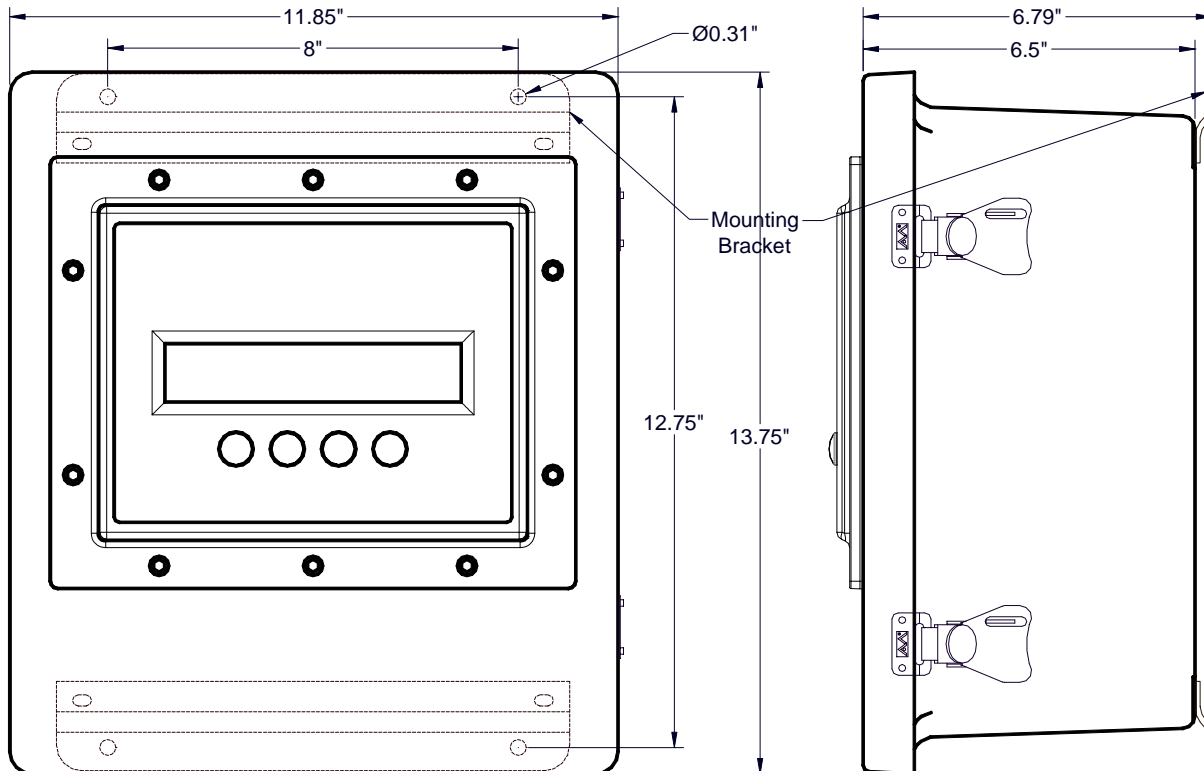
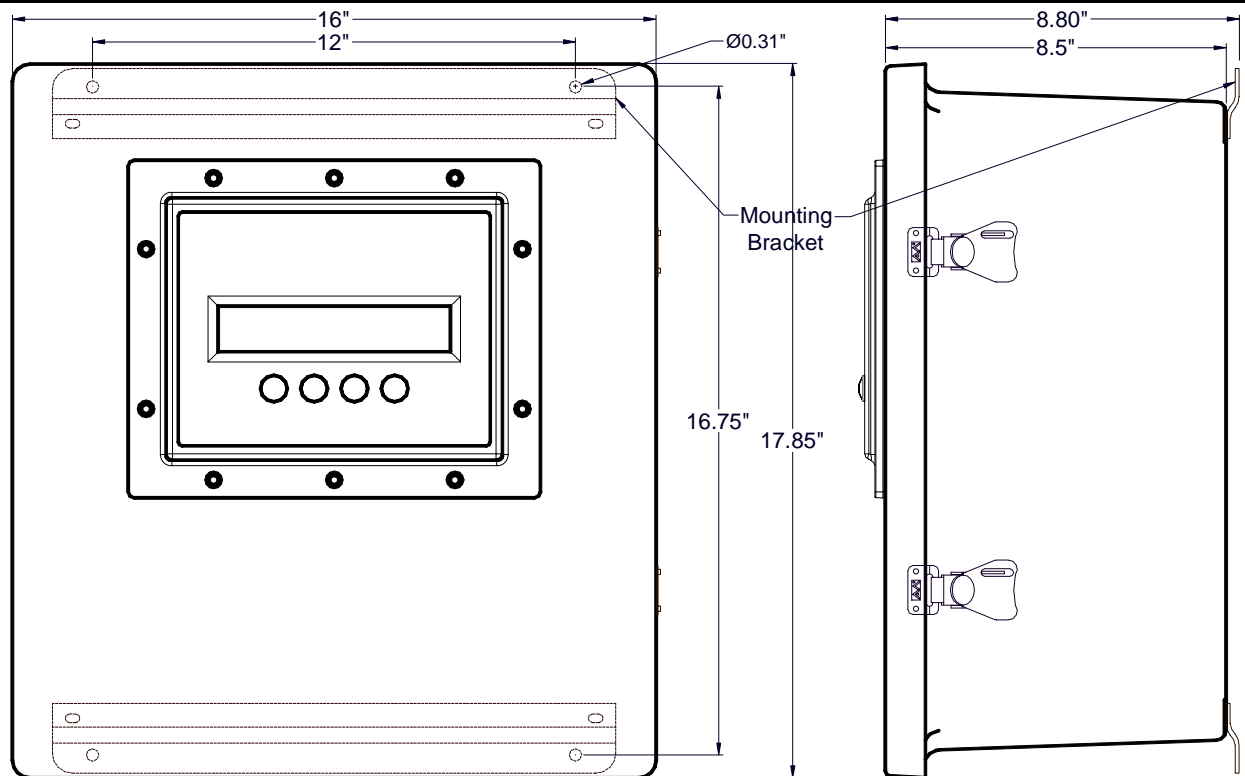

Figure 9 X40-08-N4X Controller Mounting and Dimensional View
Figure 10 X40-32-N4X Controller Mounting and Dimensional View
1. Securely mount the enclosure in accordance with the dimensions provided in Figure 9 (X40-08-N4X) or Figure 10 (X40-32-N4X).